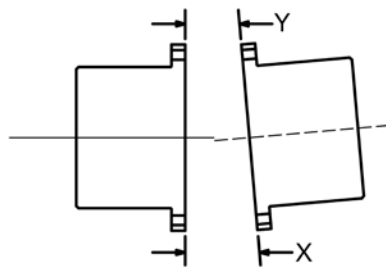
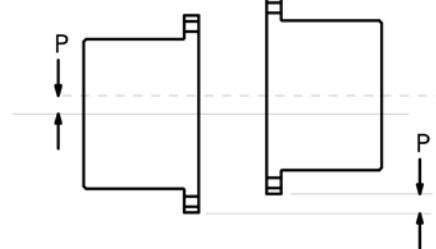

Figure 7 - Angular Misalignment
Figure 8 - Parallel Misalignment
- 8.2. Table 3 shows installation limits for Angular and Parallel alignment. The “Angular Alignment Total Indicator Reading” value is the maximum difference between the measurements (X-Y) taken at opposite ends of the hub flange, as shown in Figure 7. The “Parallel Alignment” value (P) is the offset between the centers of the hubs, as shown in Figure 8. If parallel offset is measured by rotating the hubs with a dial indicator on the outside diameter, the total indicated reading should be divided by (2) to calculate P.
- 8.3. The “Angular Misalignment” value is the maximum difference between the measurements X and Y taken at opposite ends of the hub flanges, as shown in Figure 7.
- 8.4. The “Parallel Misalignment” value (P) is the offset between the centers of the hubs, as shown in Figure 8.
- a. The Angular Misalignment value is the maximum difference between the measurements X and Y taken at opposite ends of the hub flanges, as shown in Figure 7.
- b. The Parallel Misalignment value "P" is the offset between the centers of the hubs, as shown in Figure 8.